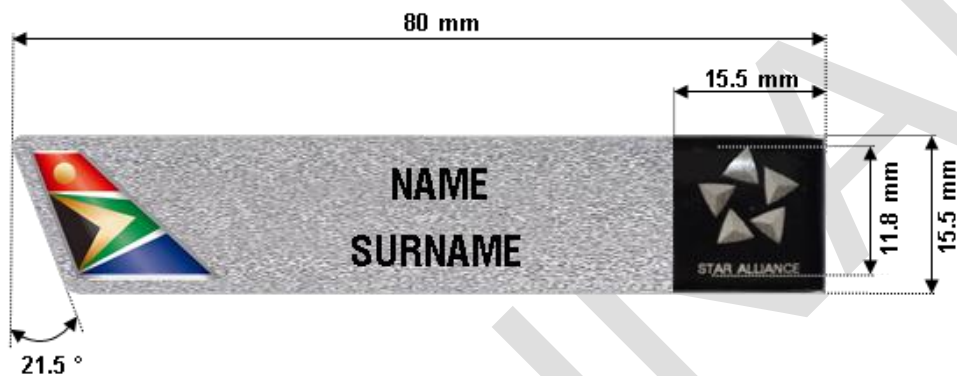

Figure 4 – Generic dimensions applicable to all badges
- ♦ be supplied in one size with dimensions as given in figures 4 and 5